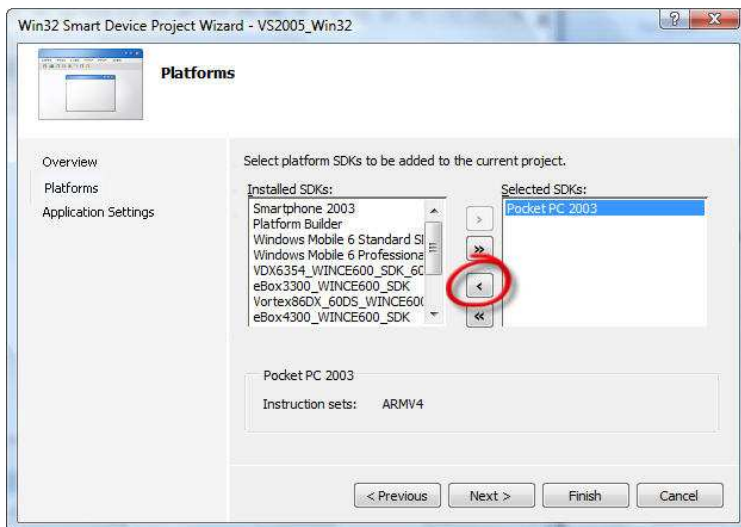

Fig. 50 - Platform and SDK selection
- Click on the **Next** button to bring up the Platforms selection step, as shown in Figure 50.